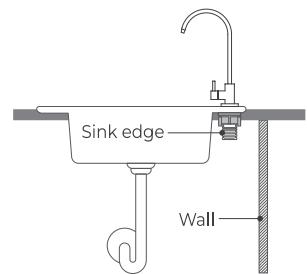

Figure 4
- a. Choose a suitable place to install the faucet and leave enough space for the mounting washer to avoid touching the wall or sink. (**Figure 4**).